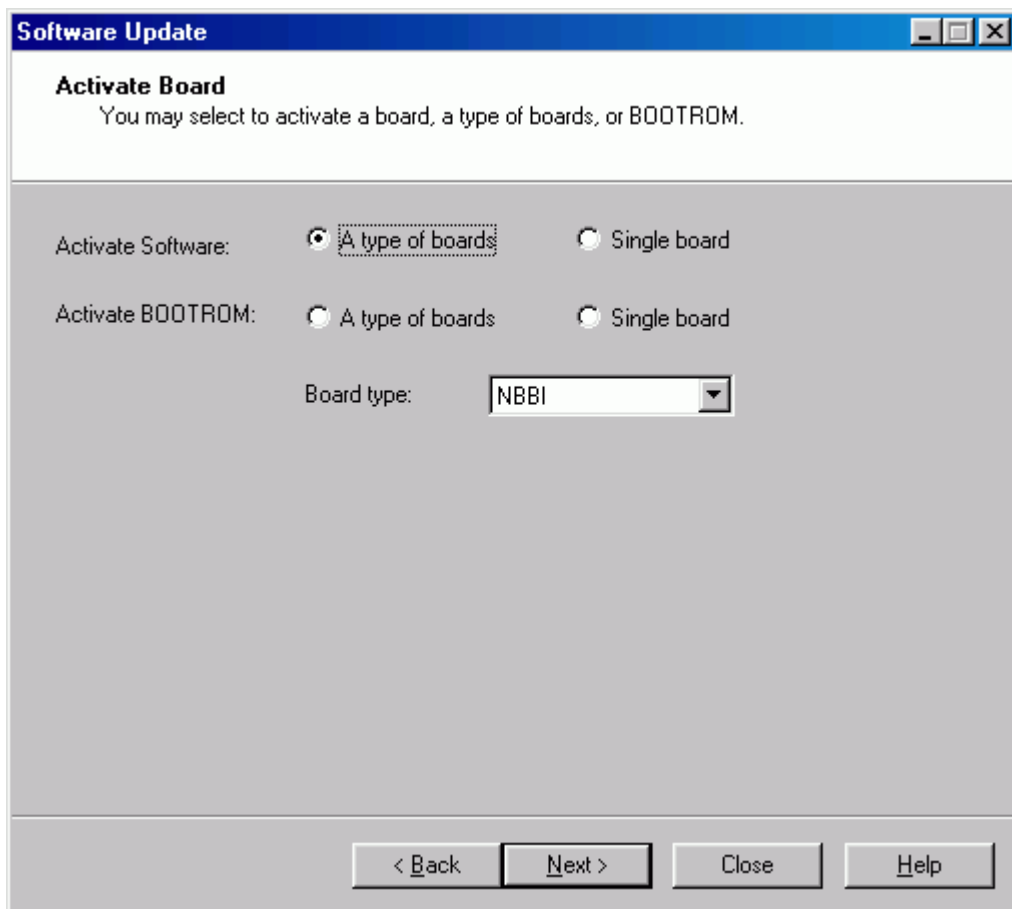

Figure 14-5 Activate Board dialog box
- 3) Click **Next**. The **Activate Board** dialog box opens up as shown in Figure 14-5.